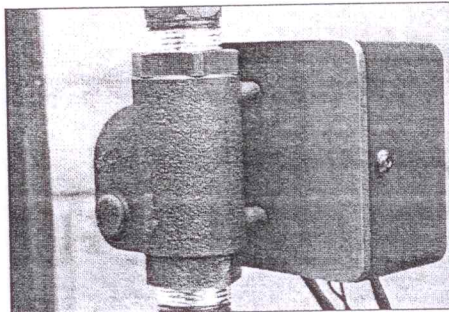

Figure 2
2. After soldering the piping to the fittings, apply thread sealant to the adapter fittings and thread the adapters with attached piping into the valve body. **Figure 2**